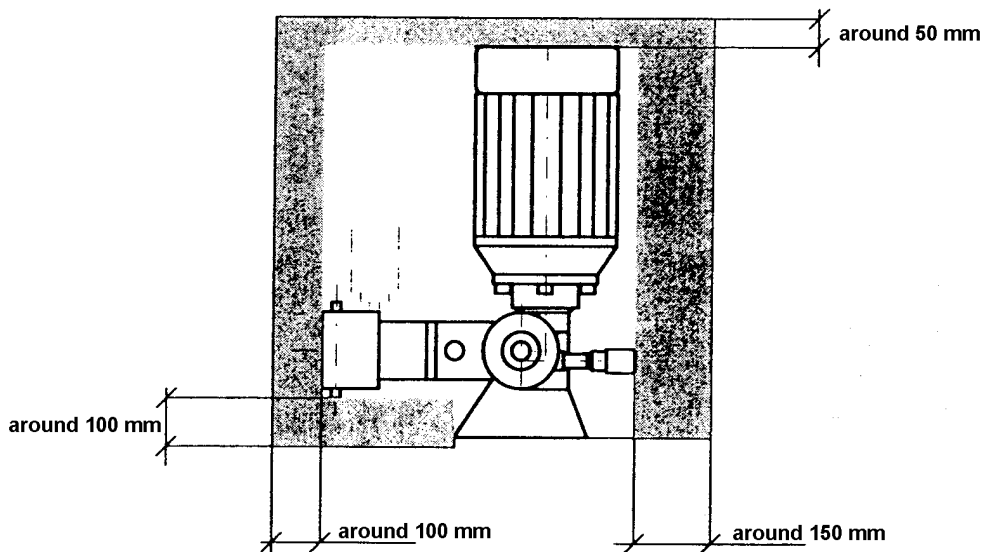

Fig. 1
- Place the machine in a vertical position as shown in Figure 1 and on a sturdy resting place (made of metal, cement, etc.).